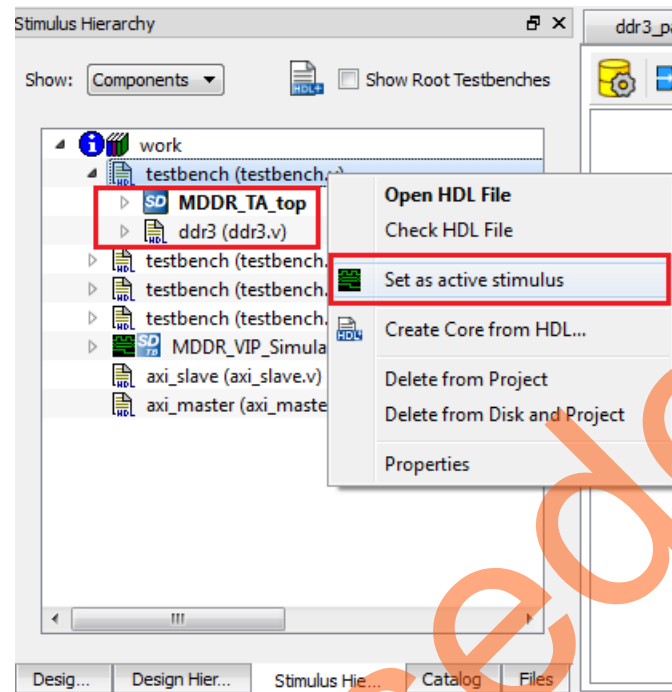

Figure 15 • Stimulus Settings
- Set the testbench in which DDR3 memory model is instantiated as active stimulus. Figure 15 shows the settings under Stimulus Hierarchy.